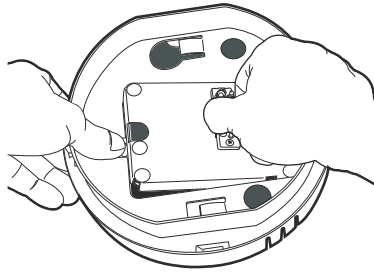

Figure 6. Opening the Door of the Spectra III/Spectra IV Back Box
2. Open the hinged door of the back box by pushing the tab lock toward the wall of the back box and then pulling the door open (refer to Figure 6).